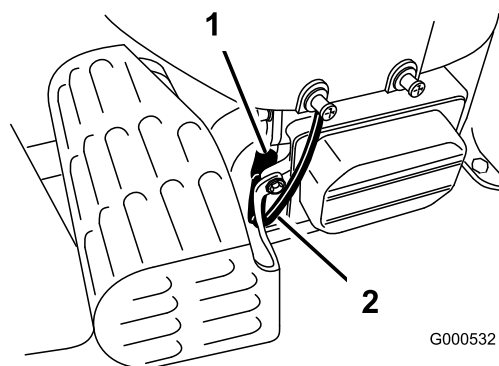

Figure 28
2. Pull the wire off of the spark plug (Figure 28). Clean around the spark plug to prevent dirt from falling into the engine and potentially causing damage.
3. Push the wire onto the spark plug (Figure 28).